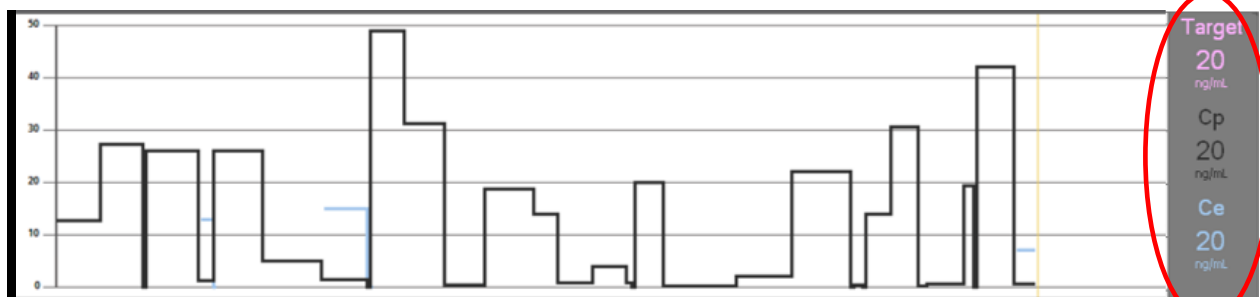

Fig 21
*The events list (Fig 21 **A**) refers to the association of a given pump with a specific drug. Therefore, if a new drug is associated to a given pump, the event list starts all over again. The new combination is a new entity for Infusion.*